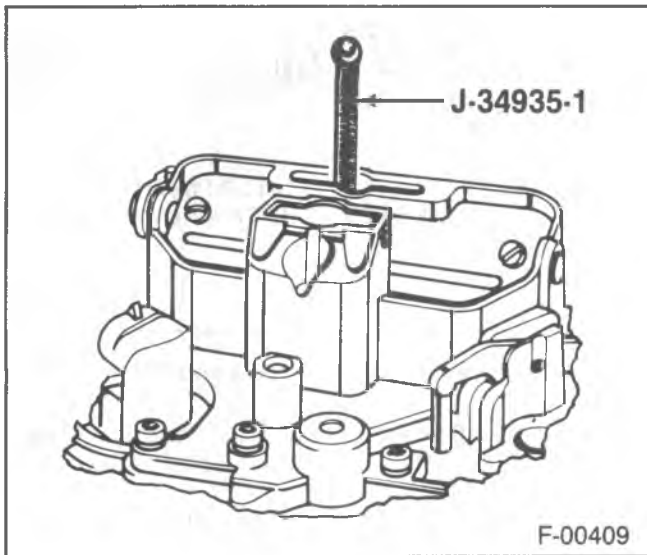

Figure 32—Float Level - External Check
- With the engine idling and the choke valve wide open, insert J-34935-1 in the vent slot or vent hole (figure 32).